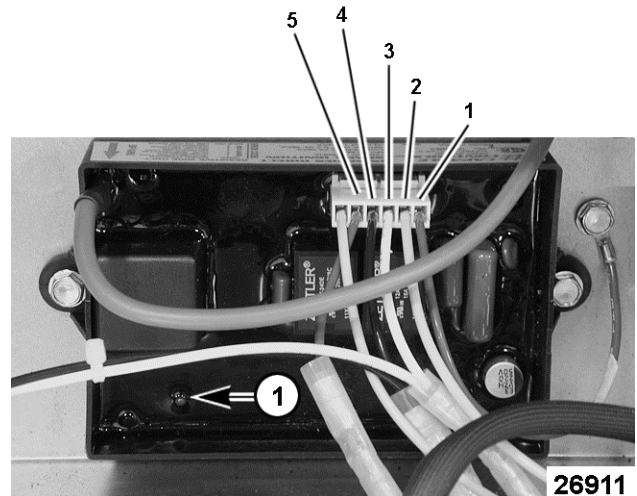

Fig. 31
2. Ignition module is energized and ignition cycle starts. Observe ignition module LED (1, Fig. 31) through front panel sight glass.